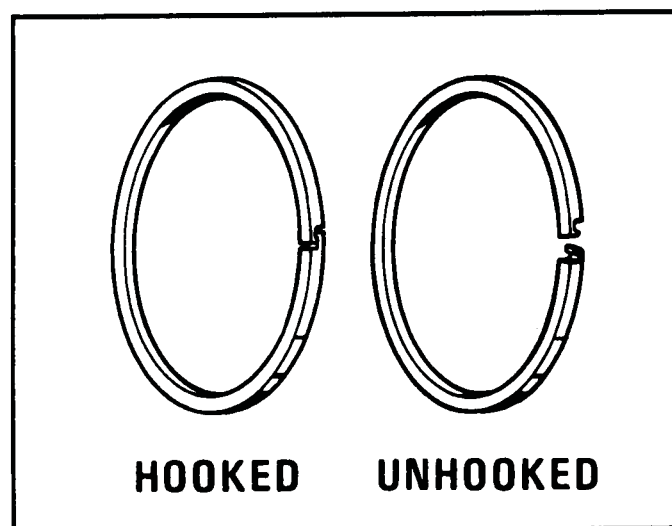

Figure 104
2. Install three new steel sealing rings on center support and verify that they are hooked. Refer to Figure 104.